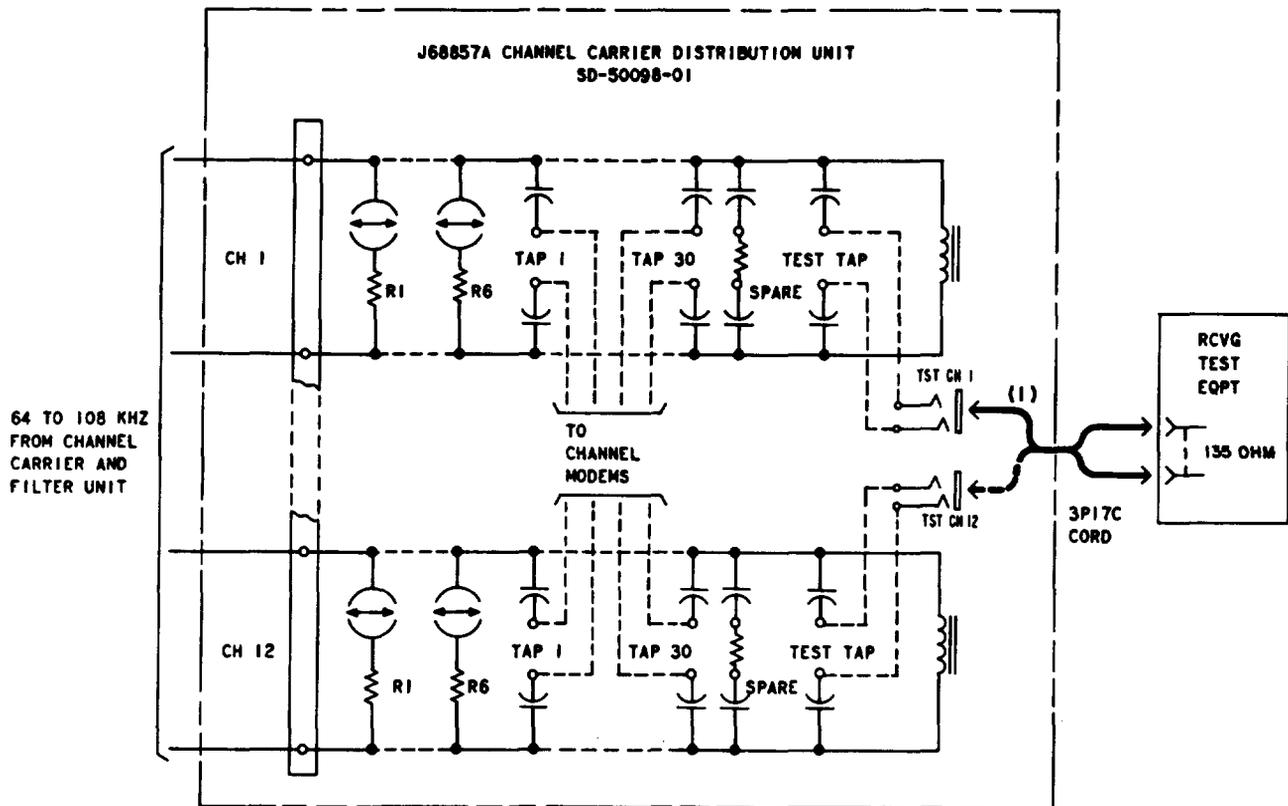

Fig. 2—J68857A Channel Carrier Distribution Unit—Measurement of Output Power
4	<p>Connect the RTE to the TST CH() jack of the distributing bus to be tested [patch (1), Fig. 2].</p>
7	<p>Remove patch (1), Fig. 2.</p>